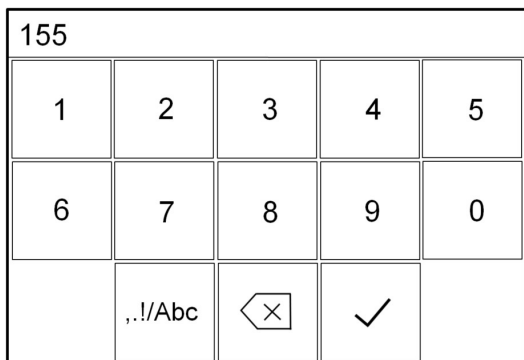
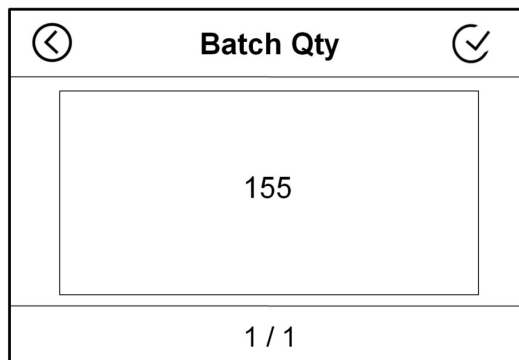
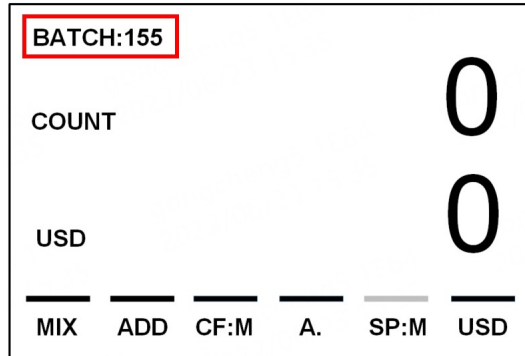

Figure 46
Figure 47
Figure 48
2) Touch the "0" character in the middle of the display screen to enter the preset number input interface shown in Figure 46. Touch the "✓" key at lower right corner after entering "155" in this interface and save. After saving, it will jump to the interface shown in Figure 47 below.
3) In the interface shown in Figure 47, touch the "✓" key to save the preset number, and the machine automatically jumps to the main interface. The upper left corner of the main interface is displayed as " BATCH: 155 ", as shown in Figure 48 below.